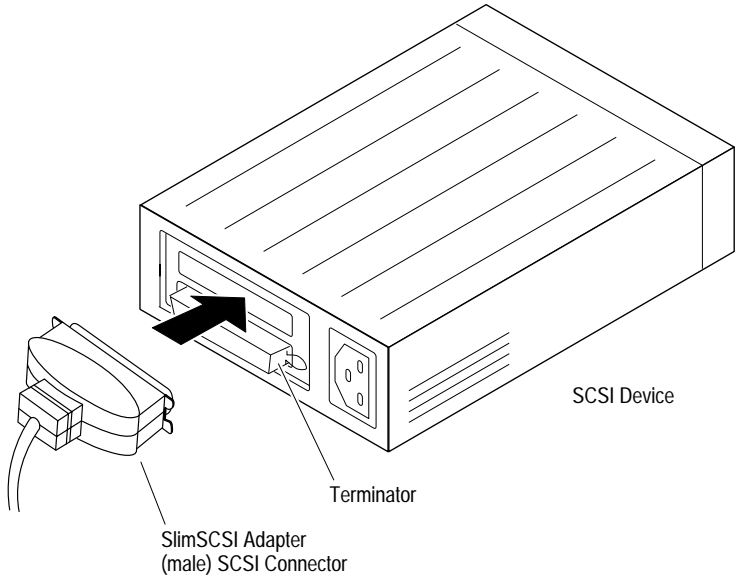

Figure 2-2. Connecting the SlimSCSI Male SCSI Connector to the SCSI Device
- 3 Connect the first external SCSI device to the SCSI connector on the SlimSCSI adapter (see Figure 2-2).
- 5 Terminate the *last* (or *only*) SCSI device connected to the SlimSCSI adapter, per manufacturer's specifications. Most SCSI devices use a jumper or switch near their SCSI connector(s) to control termination. On some SCSI devices, you must physically remove or install terminator resistor modules. An external terminator is installed in Figures 2-2 and 2-3. See your device documentation for termination information.
1 See Figure 2-2.